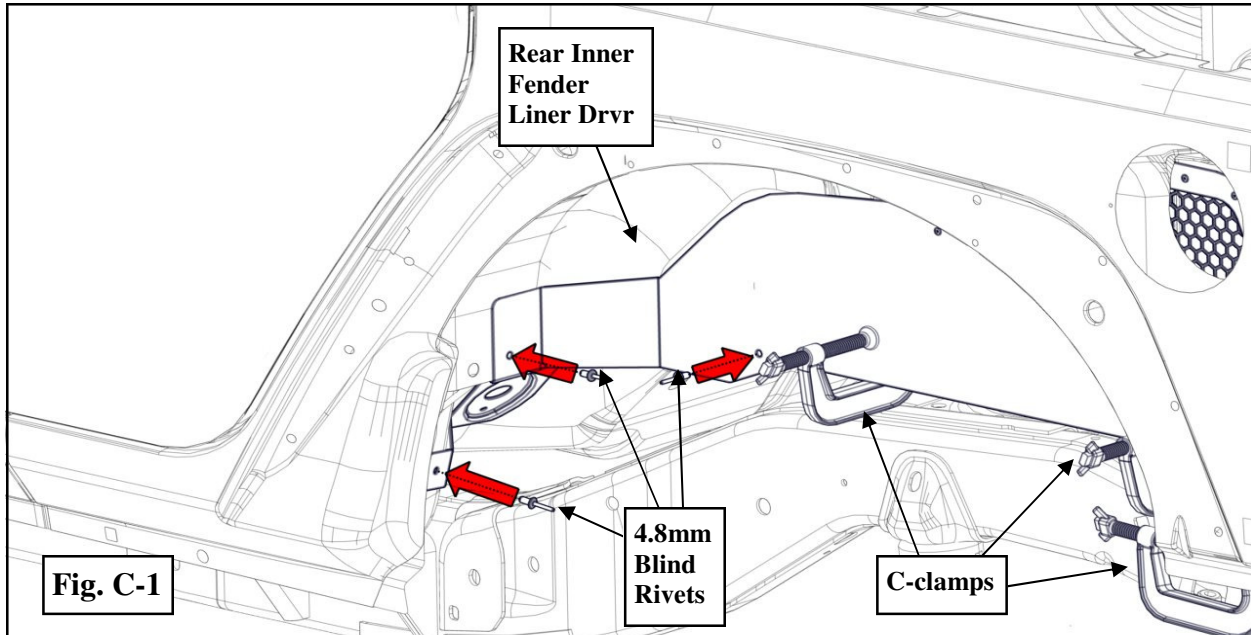

Fig. C-1
**Step 6:** Install the rear inner fender liner into the rear wheel well and secure using the supplied (5 per side) 4.8mm blind rivets. (Fig. C-1 and C-2 Drvr & Fig. D-1 and D-2 Pass)